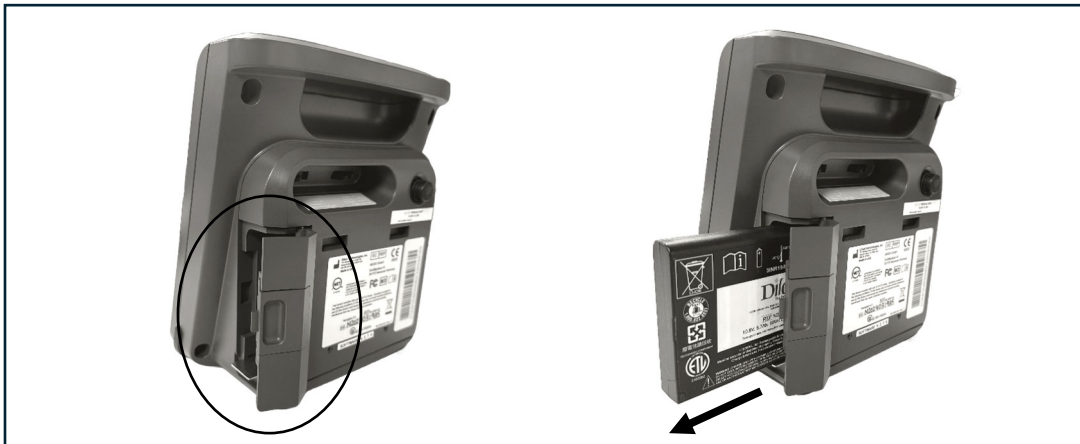

Figure 8 – Control Unit Battery Removal
3. The battery should partially eject when the door is opened. Use the tab attached to the end of the battery to slide the battery out of the Control Unit as shown in figure 8.